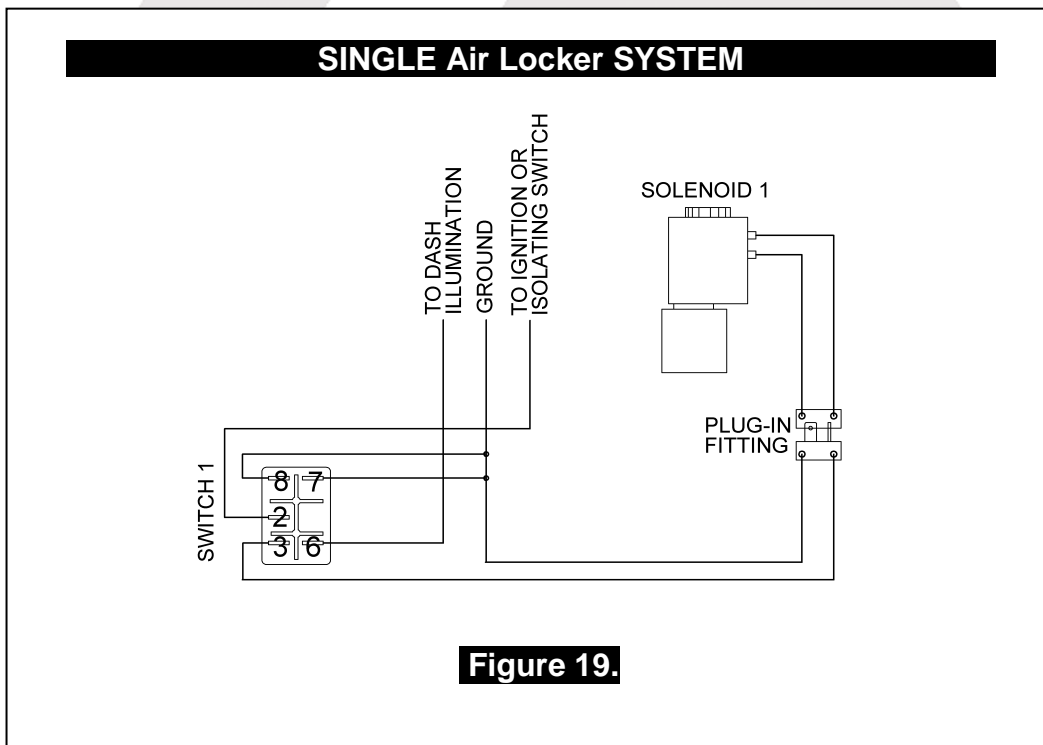

Figure 19.
When connecting the actuation switch to an alternate air source, the switch(es) should be wired according to Figures 19. and 20., depending on whether one or two *Air Lockers* will be installed in the vehicle.
- If only one *Air Locker* is to be installed in the system, the switch and solenoid should be wired according to Figure 19. regardless of whether the *Air Locker* has been installed in the front or rear axle of the vehicle.